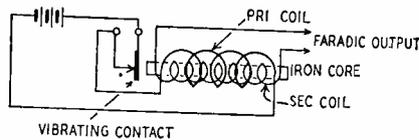

Fig. 2—Faradic generator gives sharp pulses.
*faradic generators* or coils, sometimes called *inductoriums* (Fig. 2), and by vacuum-tube oscillators designed to produce the required wave form.